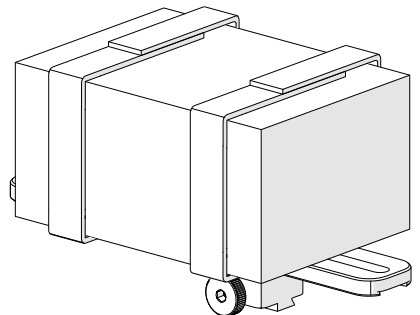

Fig. 215 - Mount bracket on a frame bar
3. Secure the preamp to the bracket attaching each side of the velcro (*Fig. 215*).